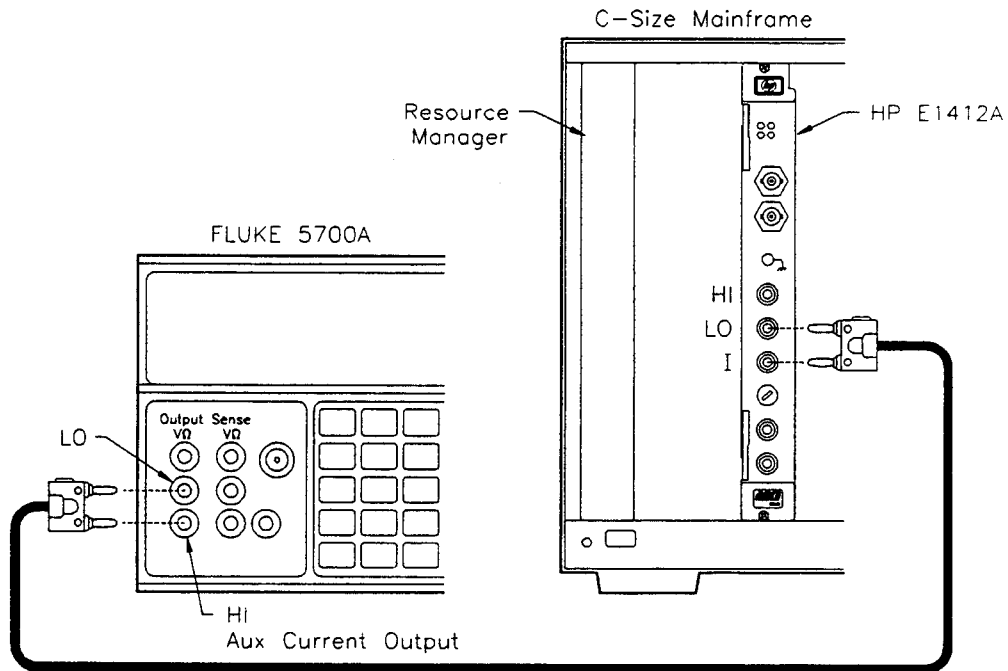

Figure 5-6. DC Current Gain Adjustment Setup.
1. Connect the DC Standard current output across the I and LO terminals of the HP E1312A or HP E1412A as shown in Figure 5-6.